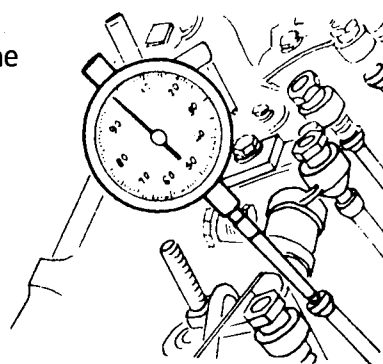

Fig. 2
- d) Check the alignment of the camshaft, using a dial gauge (fig. 2) and V blocks on a surface plate.
- a) Position the dial gauge (fig. 2) and check the displacement of the valve push rod.